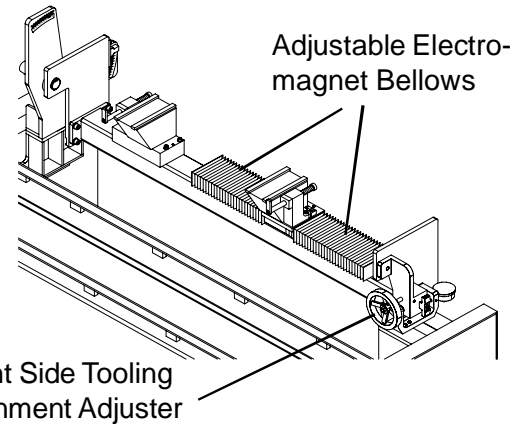

FIG. 13
1. Lift the bellows located on adjustable electromagnet (see FIG 13) and wipe off the bearing rail weekly. Every month thoroughly clean the rail and flood spray with CRC 3-36 or an equivalent lubricant. Run the adjustable electromagnet back and forth through its full range of travel. With a clean rag, wipe off the excess lubricant. Run the carriage back and forth and wipe the rail after each pass. Repeat until the rail feels dry.